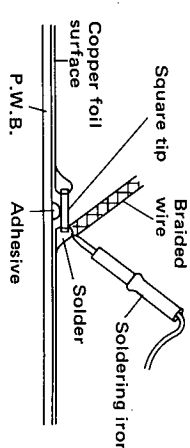

Figure 20-3
- Using a soldering iron, heat the solder at each terminal of the tip to get it absorbed into a braided wire applied thereon. See Figure 20-3.